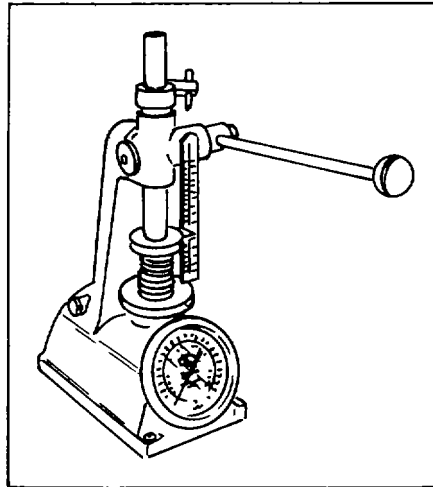

**Figure 3-81. Cam Roller Clearance.**
- (1) Inspect cam followers for scoring, pitting, or flat spots.
- (2) Refer to figure 3-81 and inspect cam follower rollers for proper clearance.